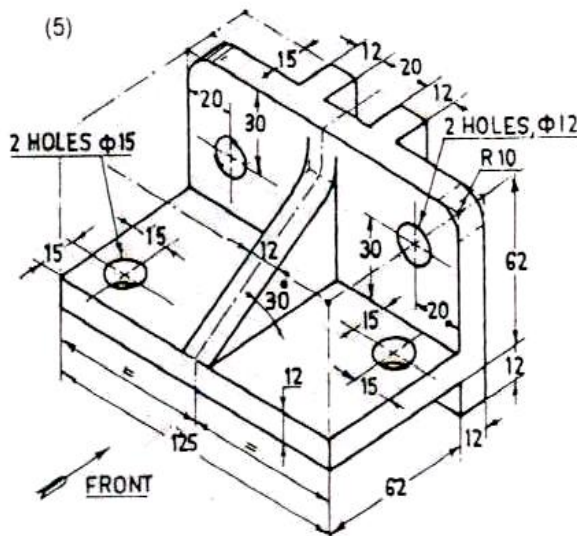

Figure 12
1. Draw the following View for Figure 12